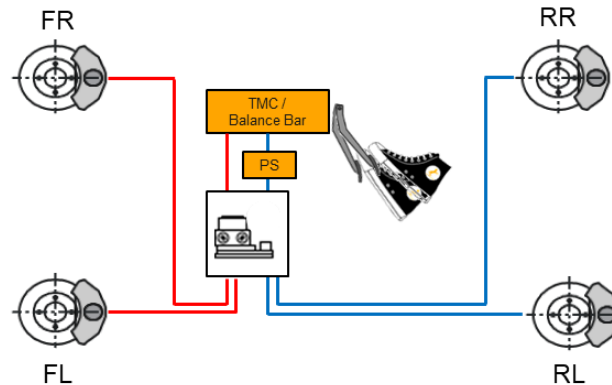

Figure 7: Hydraulic Setup
The hydraulic setup is shown in Figure 7. It requires a front/rear brake circuit split and can either be used with a tandem master cylinder or two master cylinders in combination with a balance bar. The integration of the HECU and the external pressure sensor (PS) is described in the following.
The external hydraulic Brake Pressure Sensor should be installed between the Master Cylinder and the HECU in the rear circuit, as shown in Figure 7: Hydraulic Setup.